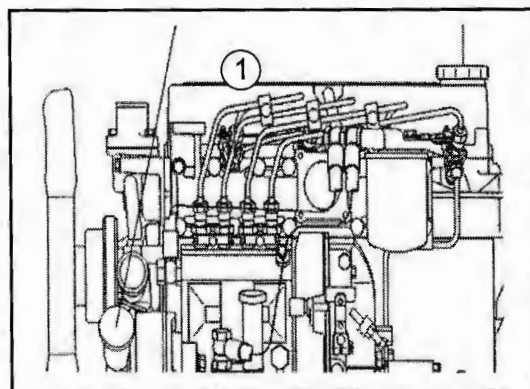

Fig. 34-3 - Transmission / Hydraulic Oil Level
- Check oil level through oil level gauge (1).
The oil level should be between the two marks on the oil dipstick (1). If necessary, top off the oil through fill point (2) until correct level is reached. (See Fig. 34-3 & Fig. 35-4).